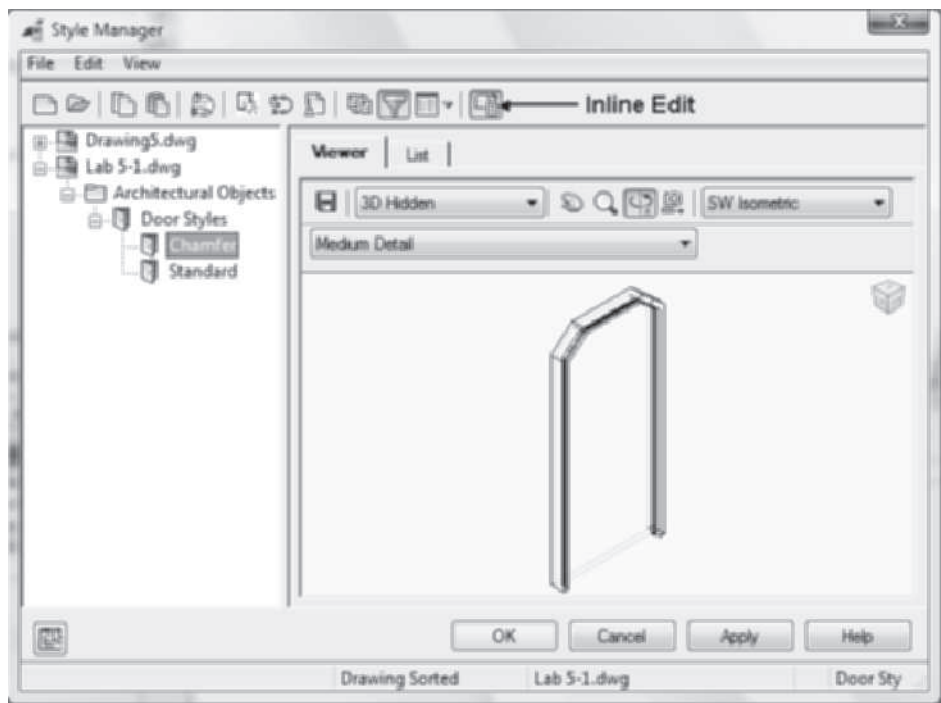

FIGURE 5.27 Door created in the shape of the profile
9. Select the **Inline Edit Toggle** button of the Style Manager toolbar as shown in Figure 5.27.
10. Select the **Viewer** tab in the right pane; select **SW Isometric** view, **3D Hidden** Visual Styles, and **Medium Detail** display as shown in Figure 5.27.